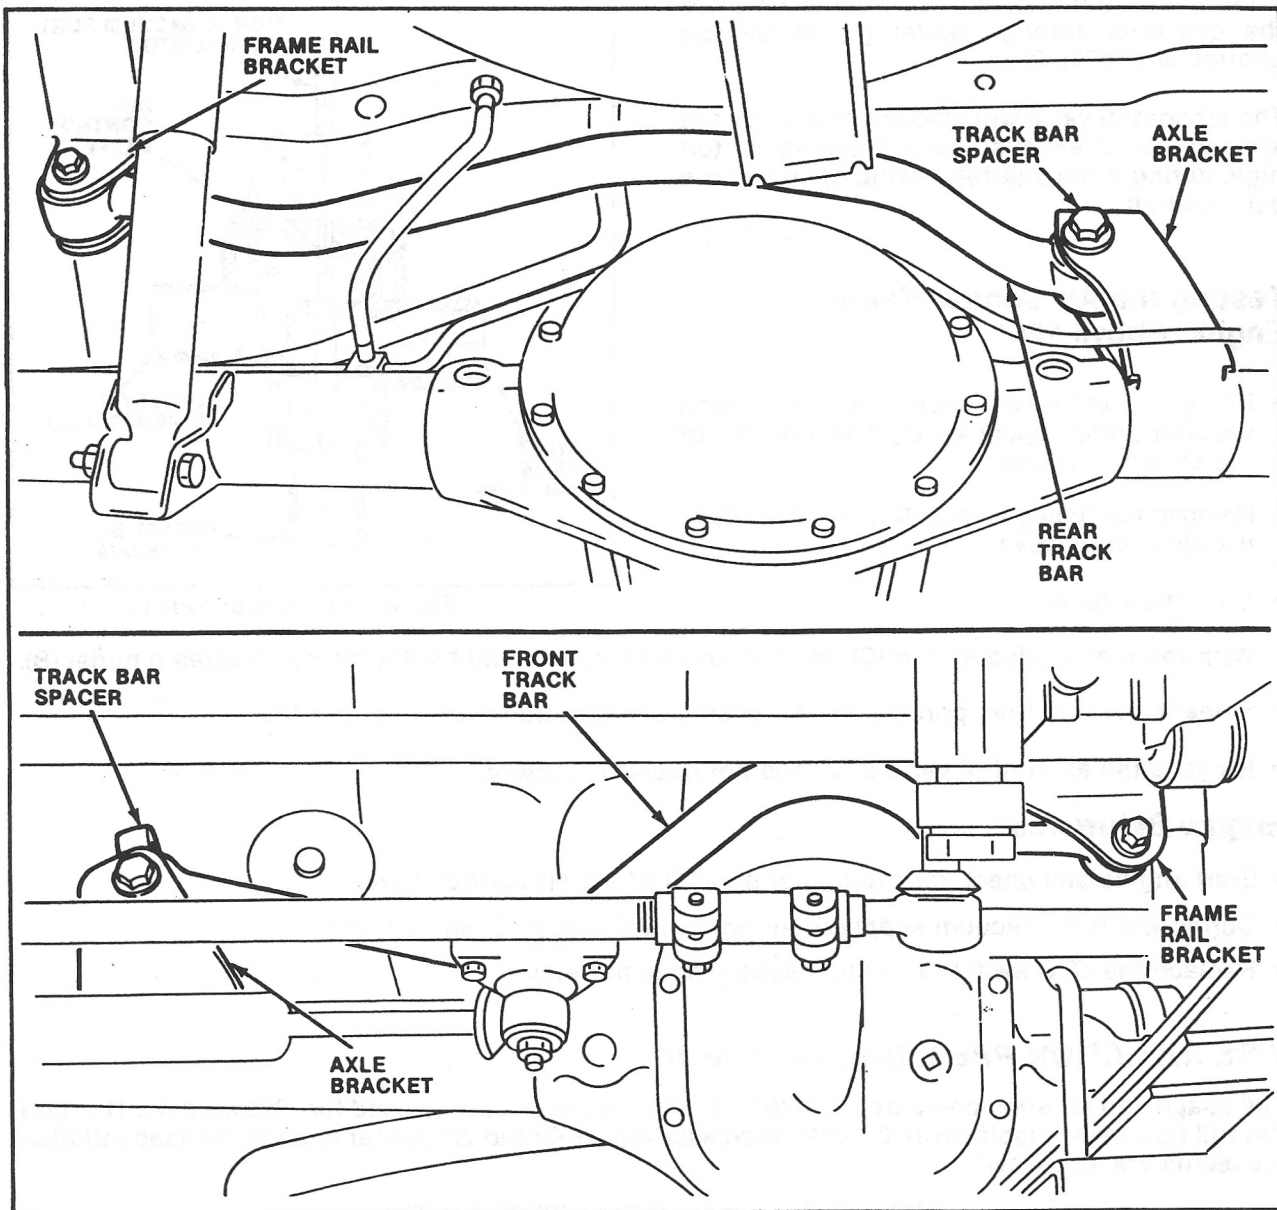

Fig. 3
1985 models are equipped with front and rear track bars to further enhance vehicle handling and ride (Fig. 3). Each bar is attached to a bracket on the axle at one end and to a bracket on the frame rail at the opposite end.
- Remove bolt and nut attaching track bar to axle bracket and remove spacer (Fig. 3). Discard nut.
- Install spacer at axle bracket end of track bar (Fig. 3).